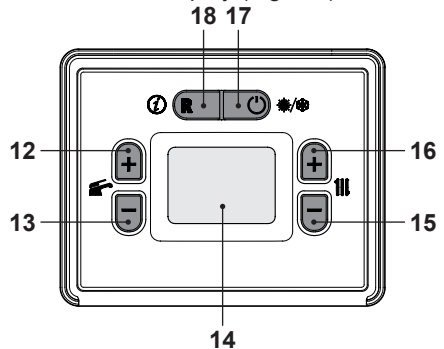

Fig. 2.2
- To access INFO mode, press 18 (Fig. 2.2) and hold for 5 seconds until the code **n02** shows on the display (Fig. 2.3).